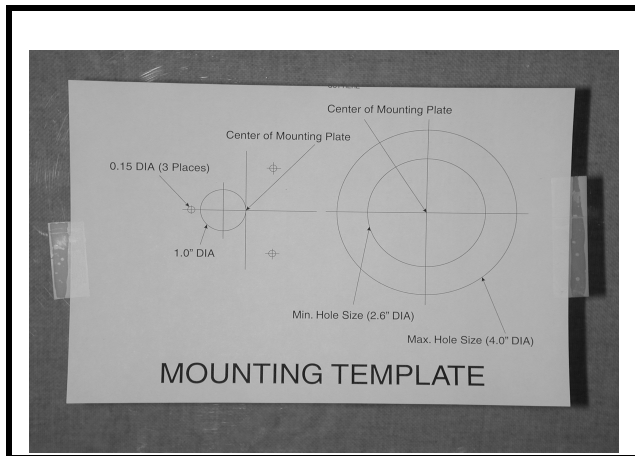

FIGURE 4. Mounting Template
3. Attach the mounting template to the window (customer assembly side) being sure to center the appropriate guide in the location identified in step 2. Note, there are two guides provided on the last page of these instructions. Use either the single large hole, or multiple small holes depending on which method you choose. Using the multiple small hole method with bullet-proof glass will afford maximum operator protection (Figure 4 on page 6).